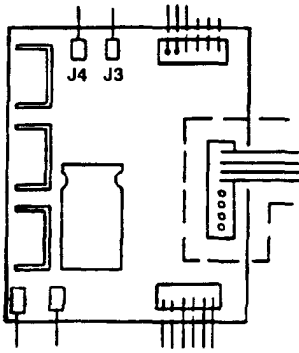

Figure 6
- 14.) Slide a heat shrink sleeve over the end of each piggyback connector and the orange wires connector. (See Figure 6).